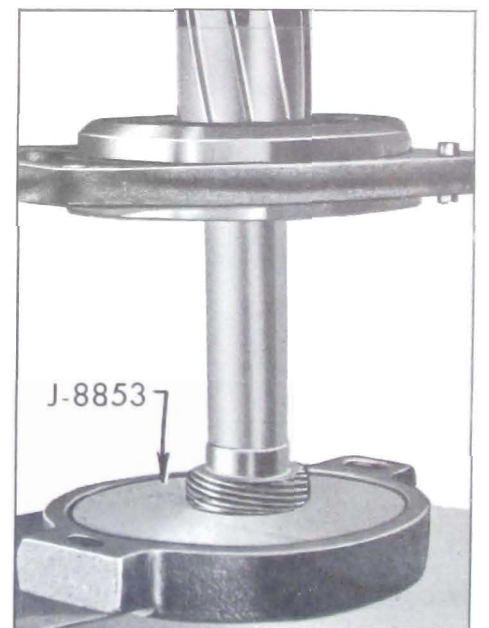

Figure 4-98—Speedometer Drive Gear
10. Press speedometer drive gear onto mainshaft, using Press Plate J-8853. See Figure 4-98.